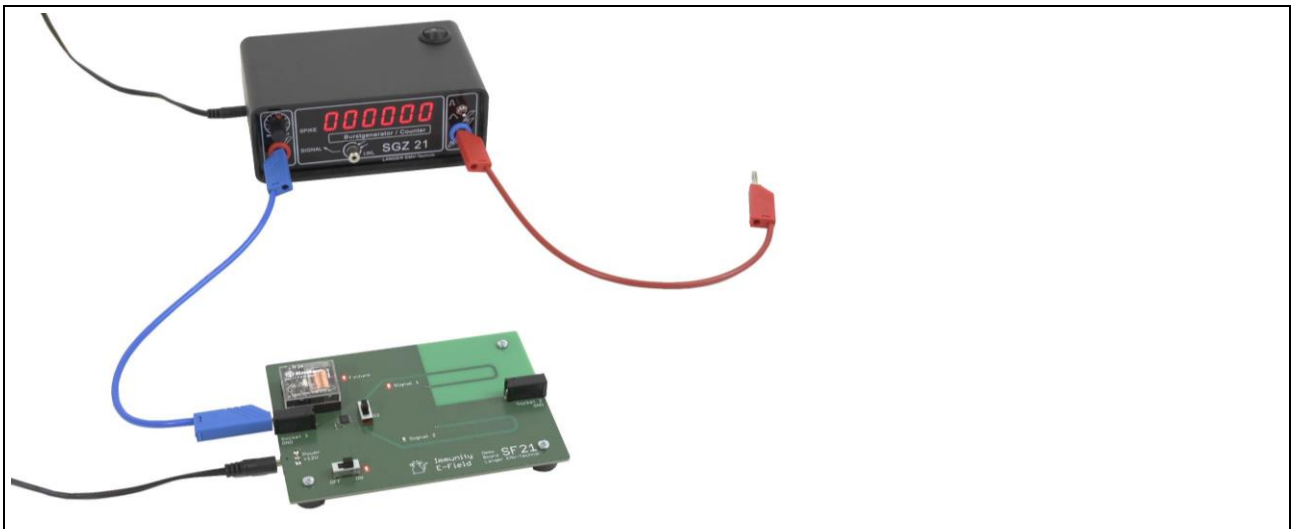

Figure 19: SF 21 is single-pole connected to the SGZ 21
- SF 21 is supplied via power supply unit. One output of the SGZ 21 is connected via Socket 1. At the second output of the SGZ 21 there is a cable which is not connected to the SF 21 (Figure 19).